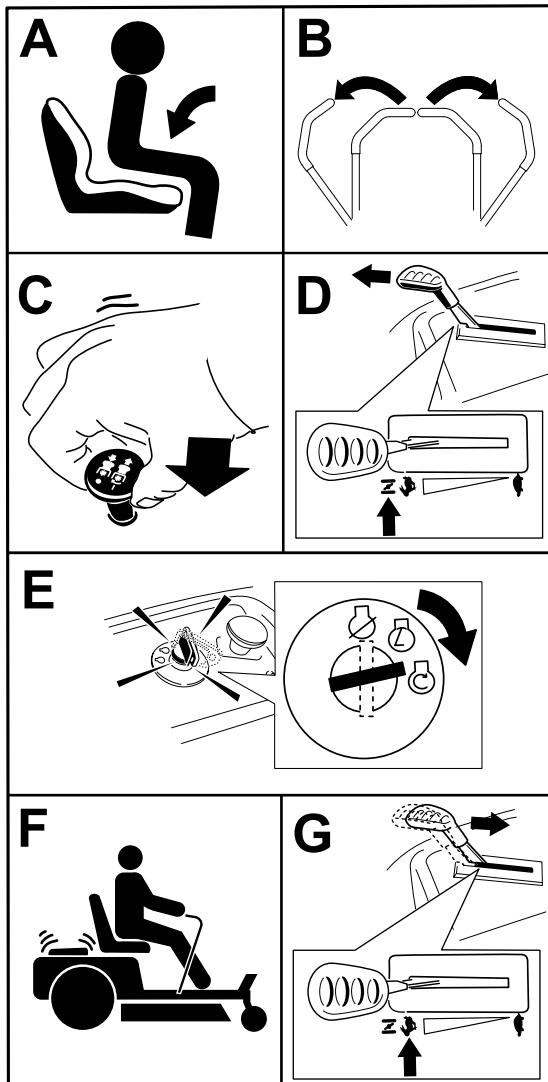

Figure 19
Note: It may be necessary to hold the lever against the stop, in the choke position, while trying to start the engine (Figure 19).
1. Disengage the blades by moving the blade-control switch to the OFF position (Figure 19).